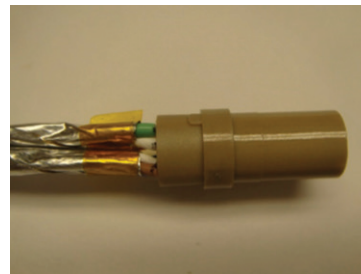
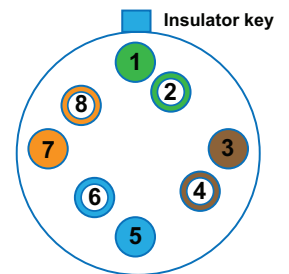

Figure 36: Inserting contacts into insulator
Figure 37: Contact positions inside insulator
12. Insert the contacts into the insulator (Figure 36). The green conductor goes into the position closest to the insulator key as shown in the diagram in Figure 37.